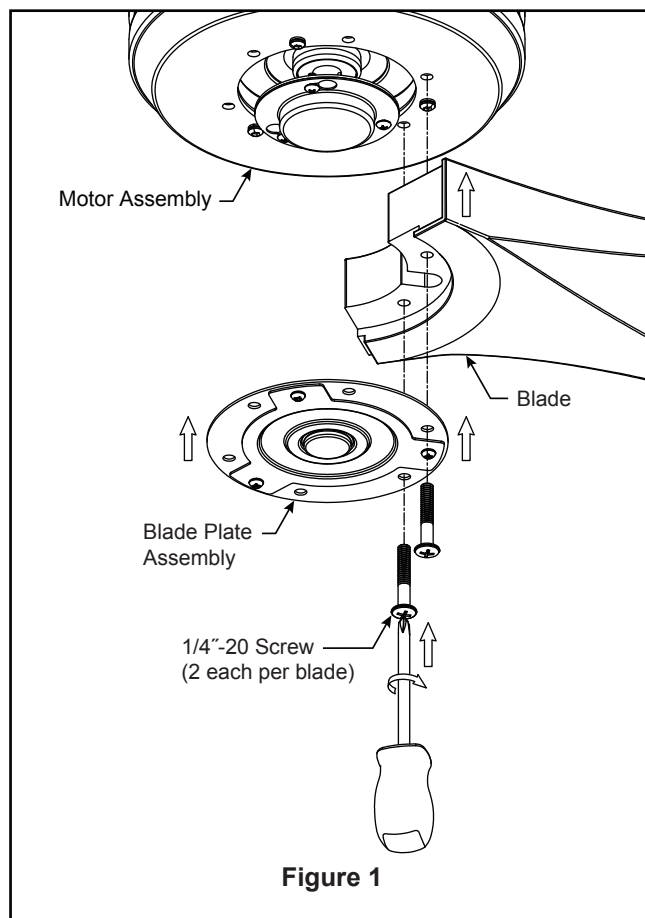

Figure 1
1. Secure the three blades using the 1/4"-20 screws and blade plate assembly through the holes located on the bottom of the motor assembly. (Figure 1)
- ☐ **1. IMPORTANT:** Using a full range dimmer switch (not included) to control fan speed will damage the fan. To reduce the risk of fire or electrical shock, do not use a full range dimmer switch to control the fan speed. (Figure 1)